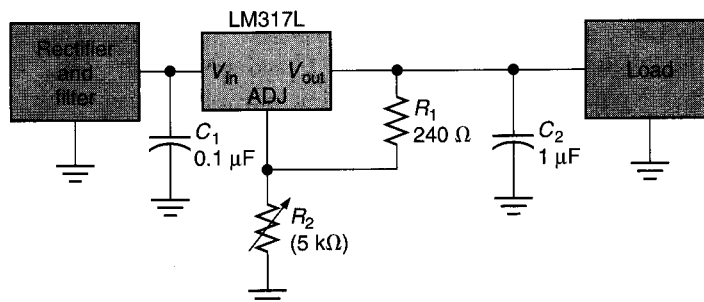

FIGURE 21.13 LM317L circuit connections.
$R_2$  in Figure 21.13 is adjusted to 2.4 k $\Omega$ . Determine the regulated dc output voltage for the circuit.
**Lab Reference:** The operation of an LM317-regulated power supply (like the one represented in Figure 21.13) is demonstrated in Exercise 37.
$R_2$  in Figure 21.13 is adjusted to 1.68 k $\Omega$ . Determine the regulated dc output voltage for the LM317L.
Figure 21.13 shows two shunt capacitors connected to the regulator input and output pins. The input capacitor is used to prevent the input ripple from driving the regulator into self-oscillations. The output capacitor is used to improve the ripple reduction of the regulator.